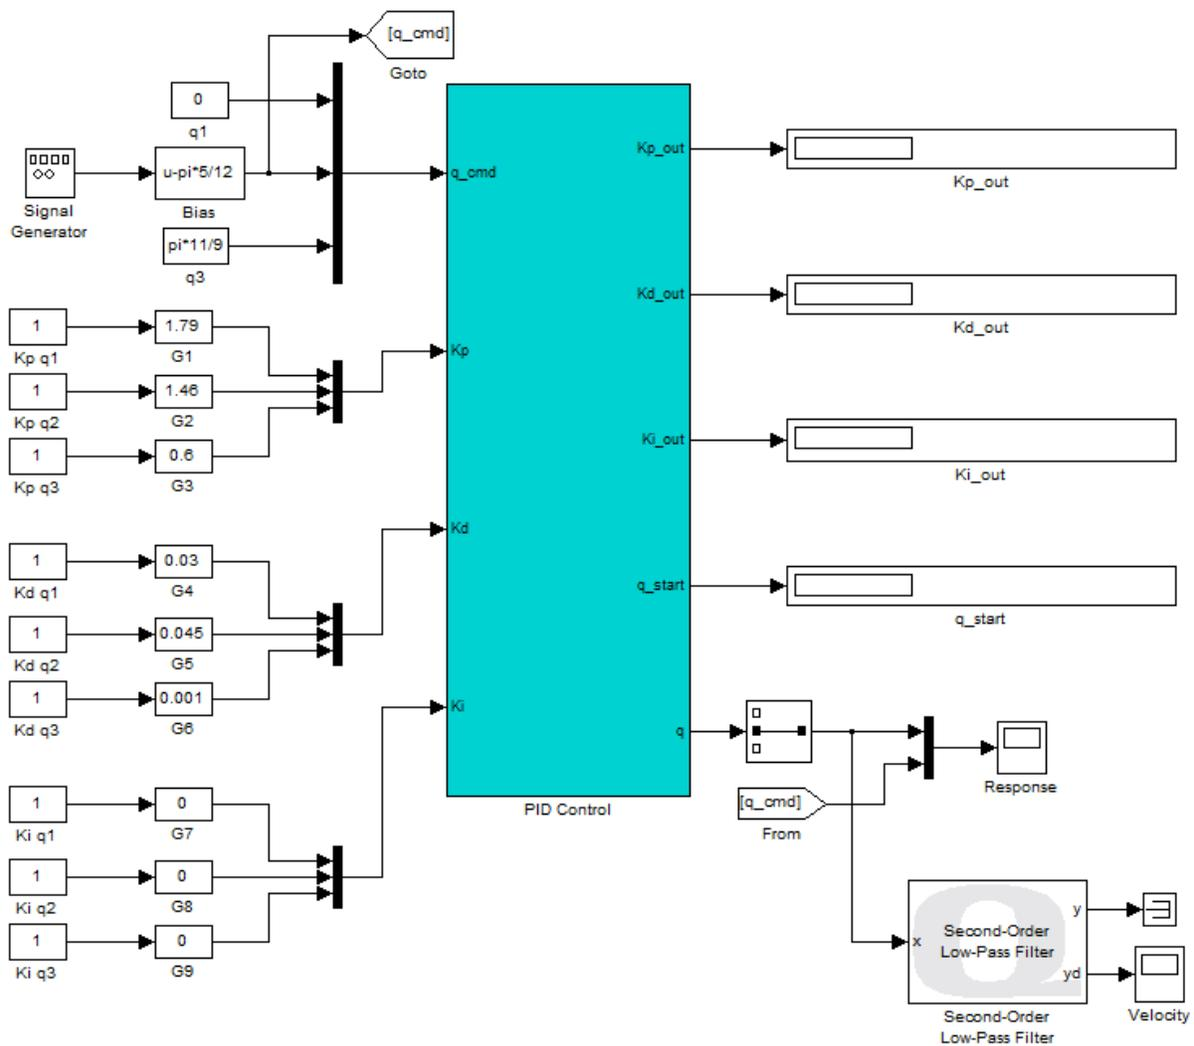

Figure 5.11: Joint 2 velocity measurement model
- Modify the model to measure the velocity of joint 2 as outlined in Section 5.2.2. Your model should resemble Figure 5.11.